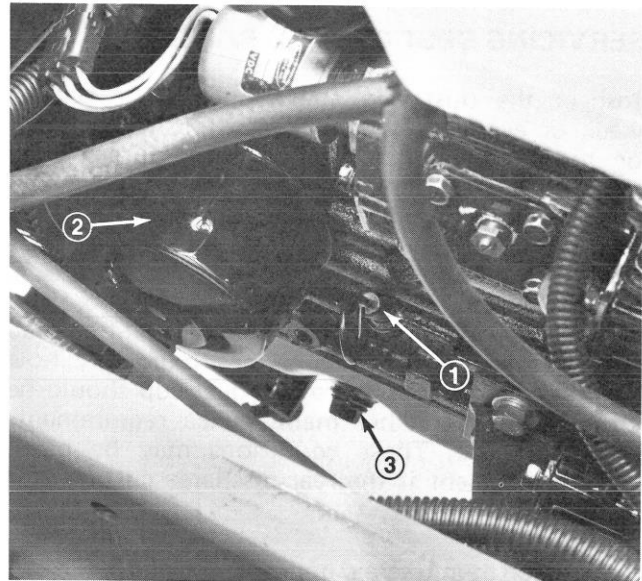

Figure 34
2. Open the hood. Set drain pan under the housing and in line with drain plug (Fig. 34).
4. Remove oil drain plug and allow oil to flow into drain pan. Remove and replace oil filter (Fig. 34); refer to parts catalog for part number.